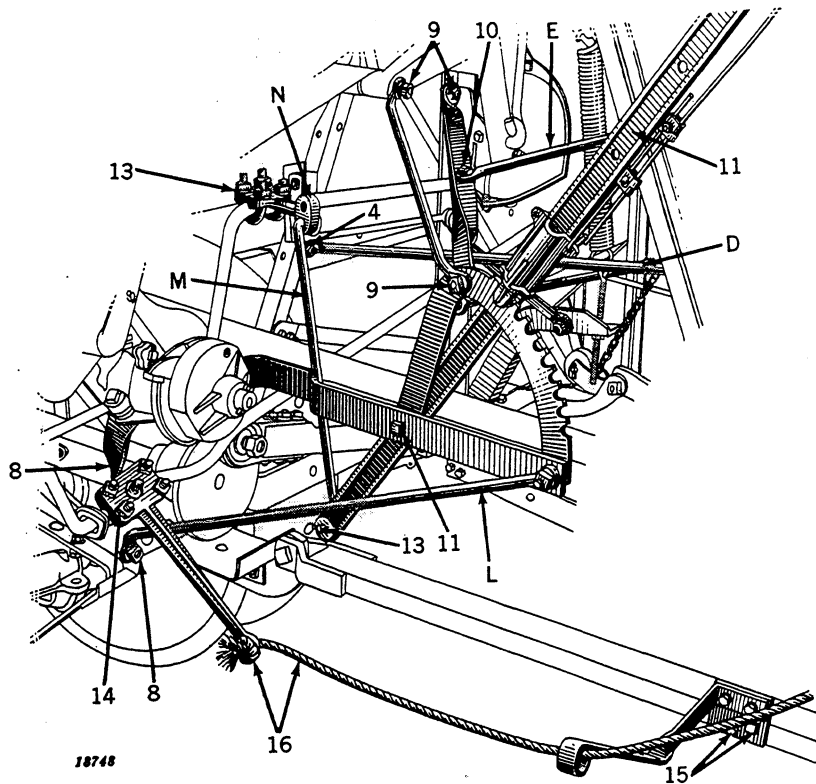

Figure 99
14. (Figure 99) With bundle carrier in receiving position, bolt dump connection to crank in vertical position. Draw U-bolts up tight and lock with set screw.
15. (Figure 99) Bolt rope guide to tractor hitch.
16. (Figure 99) Attach bundle carrier rope.